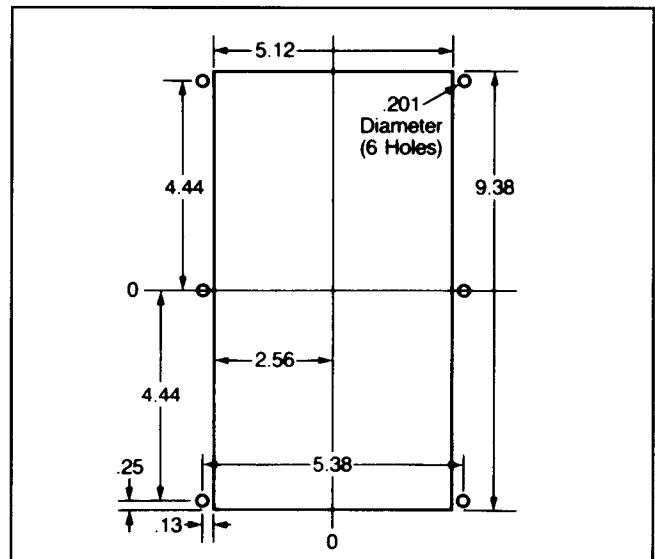

Figure 5.1 — Chassis Cutout Dimensions;
5.1.1 Cutout, Clearances — Since the AEM II is typically mounted in a cabinet door, it is necessary to prepare a cutout in which it will be placed. The dimensions for this cutout, along with the location of six mounting holes, are shown in Figure 5.1. Before actually cutting the panel, be sure that the required 3-dimensional clearances for the AEM II chassis allow mounting in the desired location. (Dimensions are shown in Figure 2.1.)